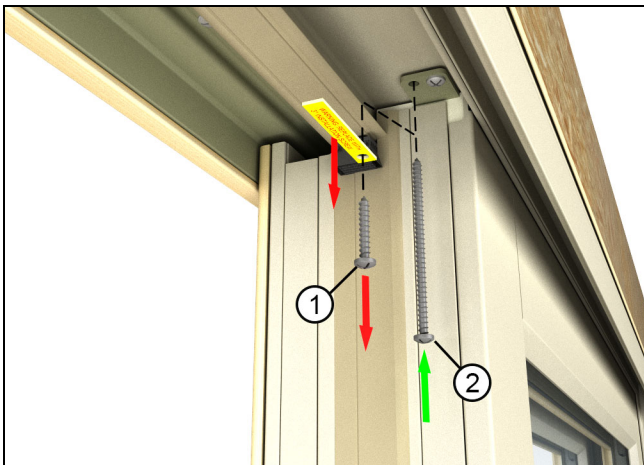

Figure 5 Non mullled unit
2. On non mullled units, remove the 1" screw (1) with label and discard. Use the #8 x 3" SS pan head screw (2) to fasten the unit to the rough opening through all top stationary panel brackets. See Figure 5.